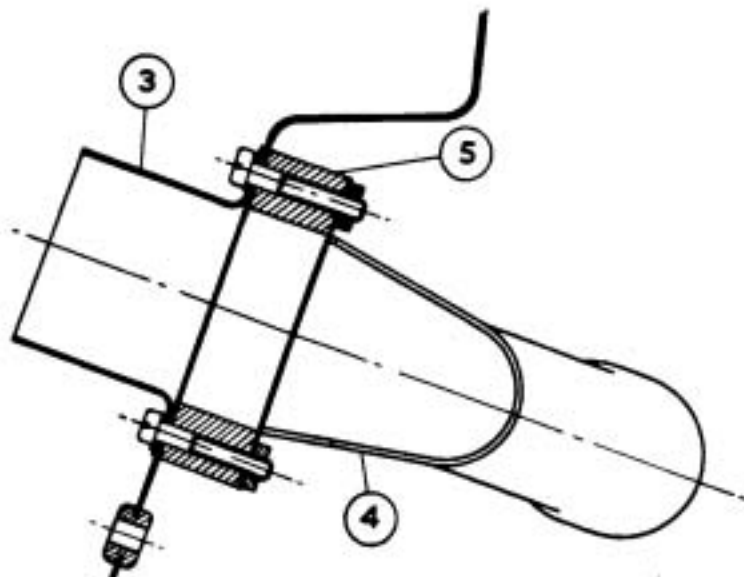

FIG. 6. FITTING OF SUPPORT TUBE, BREECHES PIECE AND THROTTLE BARREL.
- 8) Fit the demister motor support tube (3) breeches piece (4) and throttle barrel (5) as shown in Fig. 6, using the four 2 B.A. bolts and washers supplied.